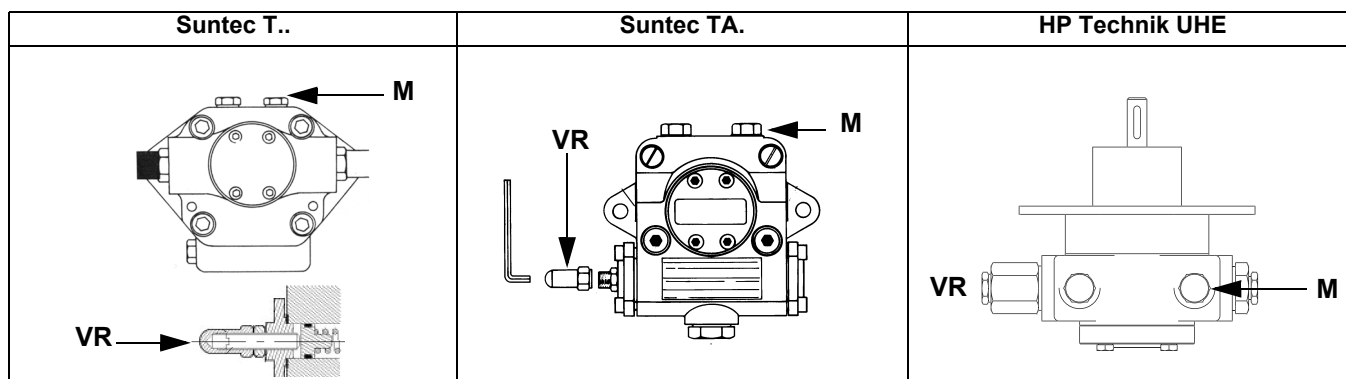
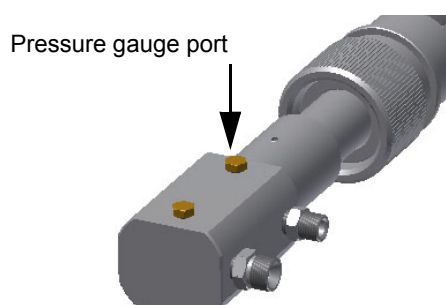

Fig. 10
Fig. 11
- 3 bleed the air from the **M** pressure gauge port (Fig. 10) by loosening the cap without removing it, then release the contactor.
- 5 Only if necessary, adjust the supply pressure as follows (see related paragraph); insert a pressure gauge into the port shown on Fig. 11 and act on the pump adjusting screw **VR** (see Fig. 10) as to get the nozzle pressure at 20bar (Monarch or Fluidics nozzles - see page 46-38).